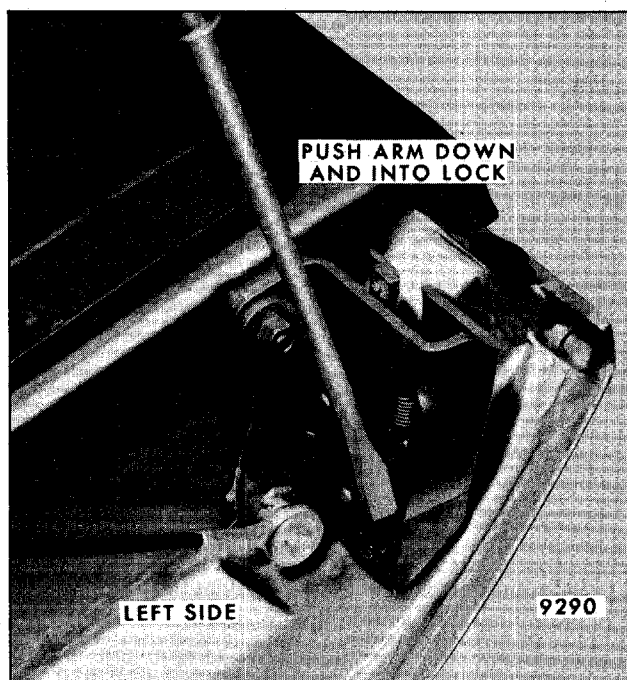

Fig. 7-126 - Manually Latch Left Upper Tailgate Lock
4. Manually latch left upper lock, Figure 7-126.